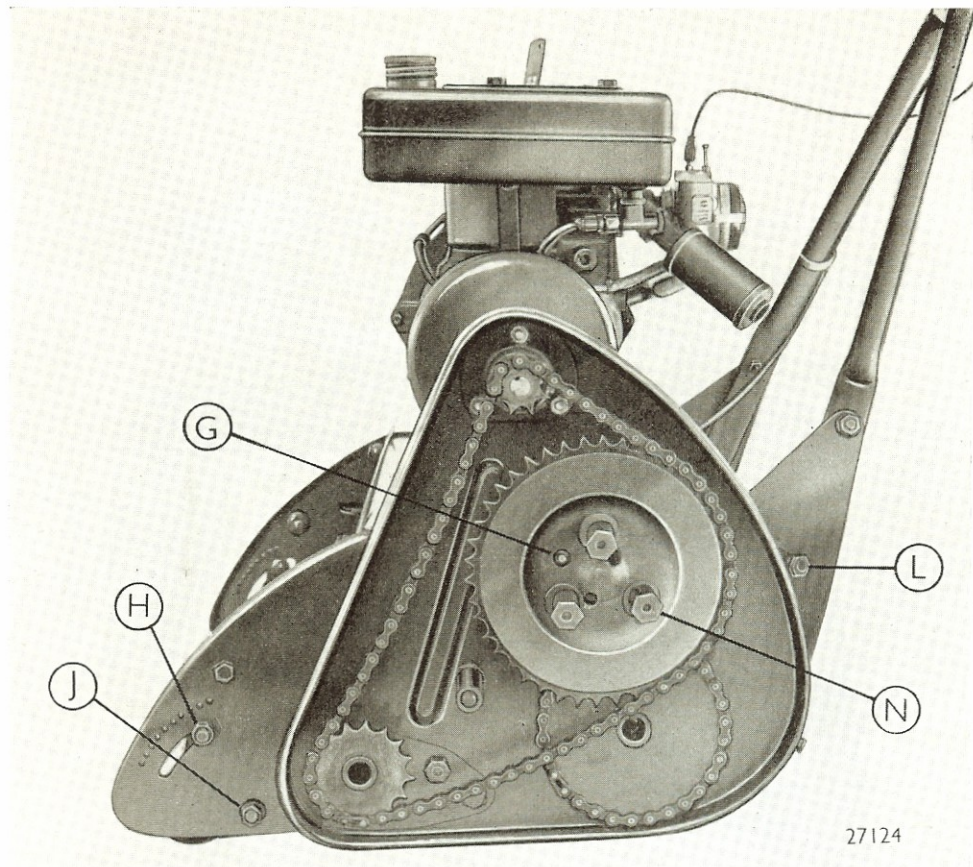

Fig. 4. View of transmission side of machine, with chaincase removed.
5. Land roll clutch through nipple G in outer plate (fig. 4, page 6).
Slacken the nuts H and J (fig. 4, page 6) and slide brackets up or down as required, taking care to see that the front roll is kept square to the bottom block.
The height of the handles can be adjusted to suit the user. Slacken the bolts L (fig. 4, page 6) at the base of the handles, alter the height as required, and re-tighten the bolts.
Both chains are adjusted by repositioning the land roll plate clutch assembly. (Fig. 4). To adjust, disengage the clutch by lifting the clutch lever, turn the outer plate until the two holes in it line up with two holes in the nut beneath, insert special pin spanner provided in the tool kit and turn anti-clockwise to slacken nut. The clutch assembly can now be slid in the required direction to tighten the chains. Re-tighten nut. When correctly adjusted the chains should be slightly slack.
First undo screw in chain case and remove it and then take off land roll clutch assembly complete with chains. To remove this assembly proceed as follows. Undo the three hexagonal nuts N (fig. 4, page 6), and take off springs and distance tubes; the outer plate, chain wheel and chains can now be removed. Using the special pin spanner, slacken and remove the securing nut, and remove intermediate chain wheel and clutch stiffener plate.
Loosen off height adjusting nuts H (fig. 4, page 6) and drop the wood roll spindle until it is clear of the chassis. Remove nuts on end of wood roll spindle and draw out spindle. If it is desired to remove the adjusting brackets undo completely the height adjusting nuts and withdraw the brackets from their pivot bolts.
Landroll Clutch slips.	Adjust lower end of control cable (page 8). If this does not have the desired effect increase loading on clutch springs by turning the three nuts N (fig. 4, page 6) by equal and slight amounts. If clutch still slips the Ferodo pads need renewing.